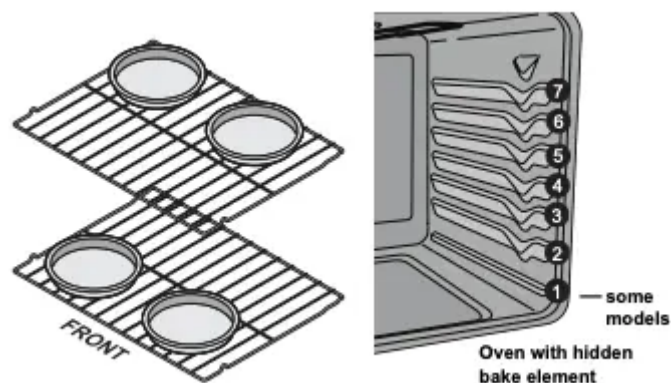

Figure 13: Pan spacing and oven rack positions
- When using 2 oven racks place racks in positions 3 and for and position cookware as shown in Figure 13.